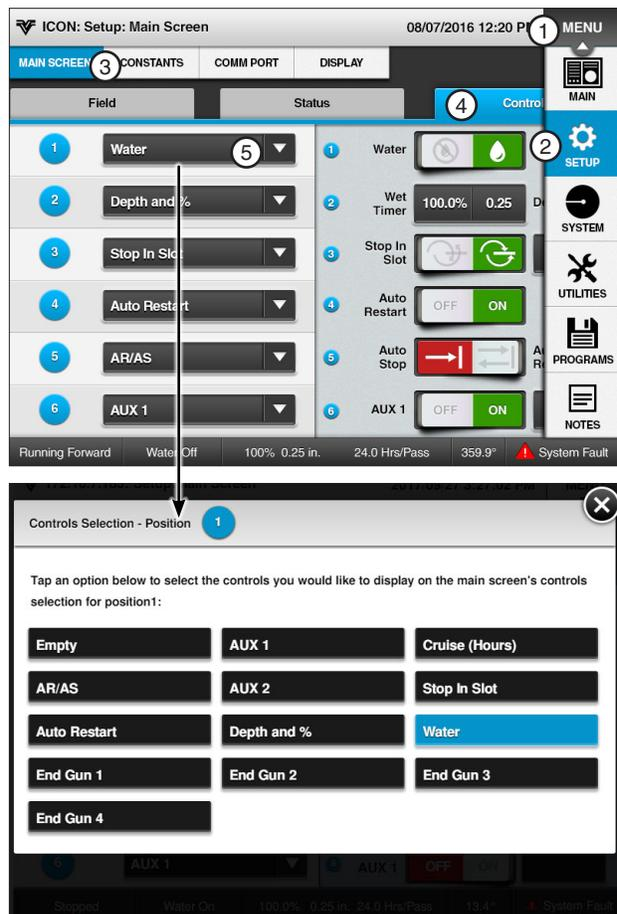

Figure 14-1 1. Menu 2. Setup 3. Main Screen 4. Controls 5. Controls Drop-Down
1. To set the Main Screen controls, push **Menu**, **Setup**, **Main Screen** and **Controls** to display the Controls screen. Refer to Figure 14-1.